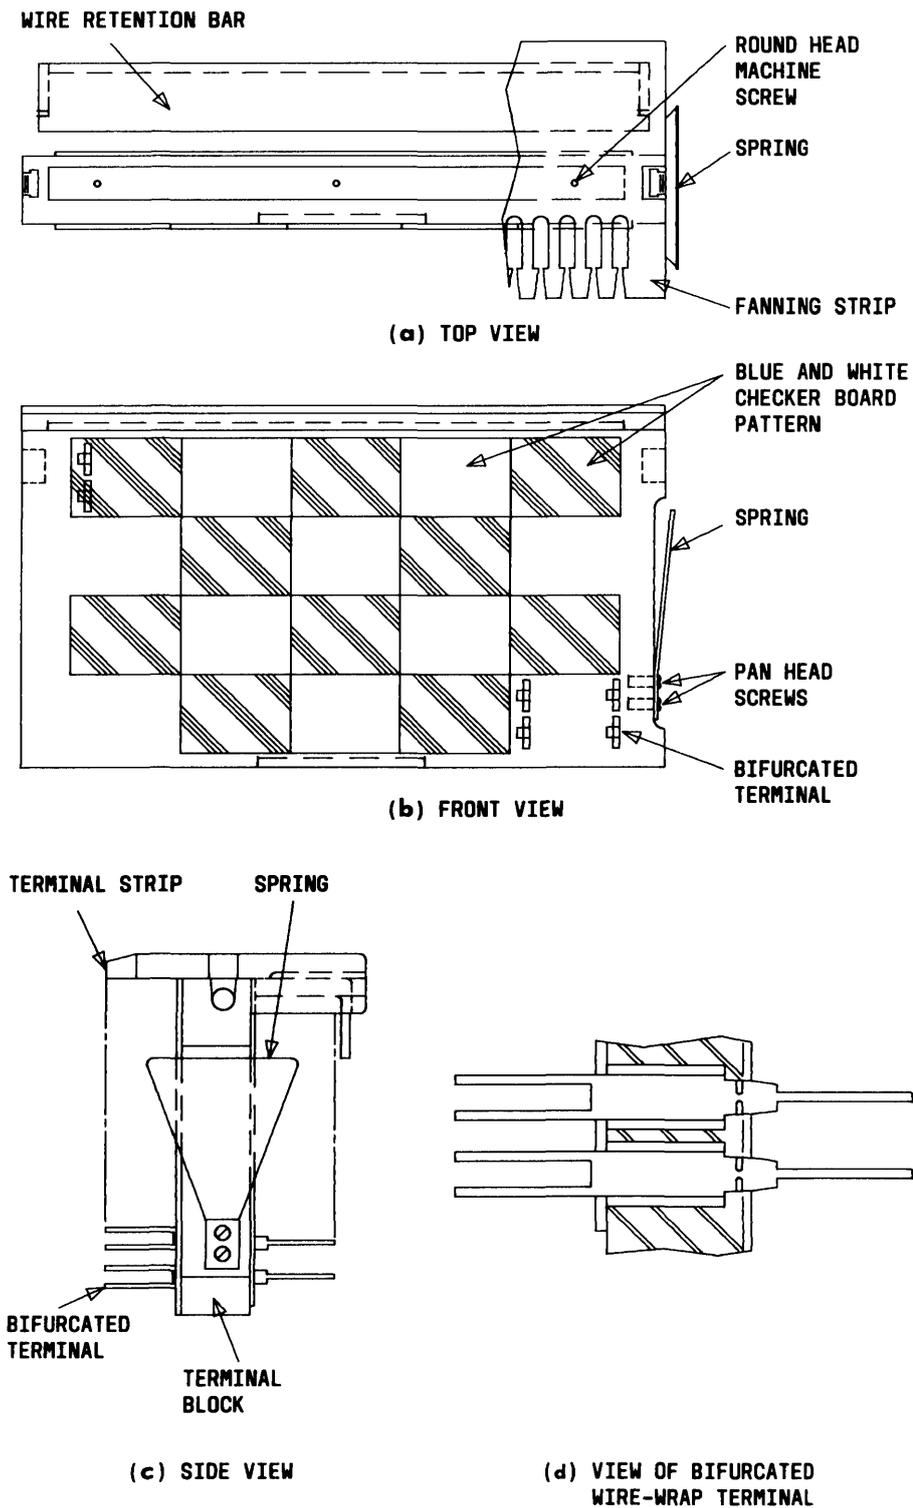

Fig. 6—Views of 100-Pair Connecting Block Assembly
2.12 Figures 6 through 8 show the additional features of the newer 89-type connecting block assembly. Only two types of terminals are used on these blocks, bifurcated wire-wrap and 3-beam quick-
clip (Table B). The blocks are equipped with either 100 or 128 pairs of terminals. Both the top and the front facets of the terminal strip can be used to identify terminations. The cable wires are fanned horizontally and a wire retention bar (Fig. 6 and 7) holds them securely in place.